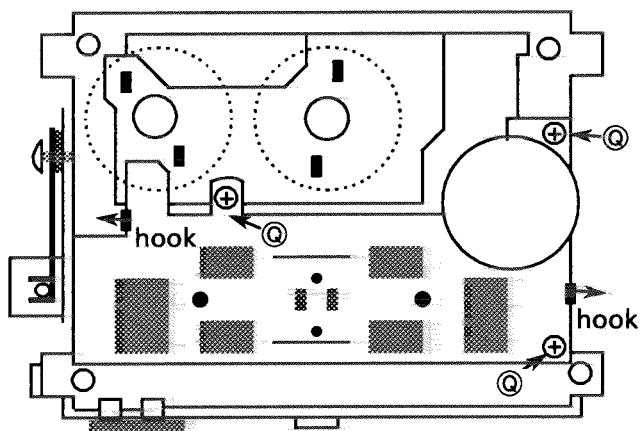

Fig 15 Cassette mechanism rear view
- 3.Remove the 3 screws ④.(Fig.15)